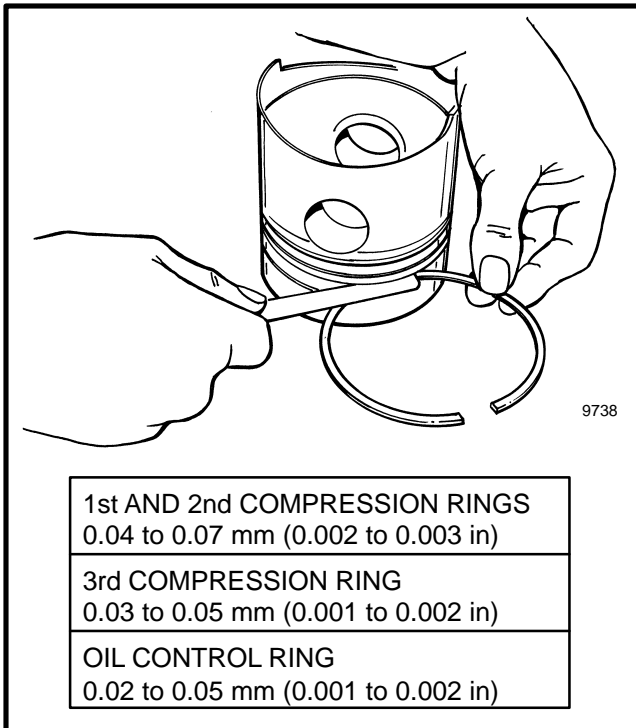

FIGURE 47. CLEARANCE BETWEEN THE PISTON RING AND THE GROOVE
2. Measure the clearance between the piston ring and the groove in the piston as shown in FIGURE 47. See the specifications for the clearance of the piston rings shown in FIGURE 47.